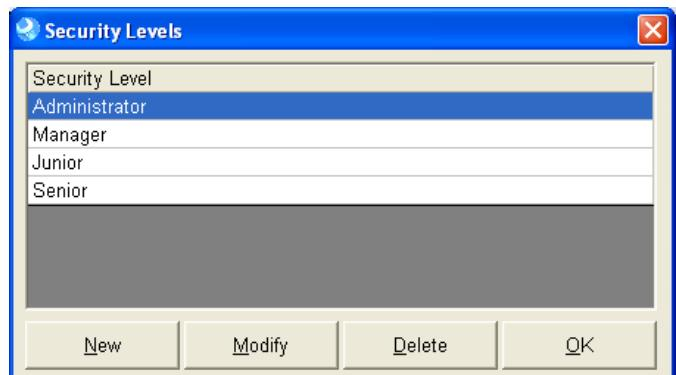

Figure 233
2. This will display the 'Security Levels' window (see Figure 233).